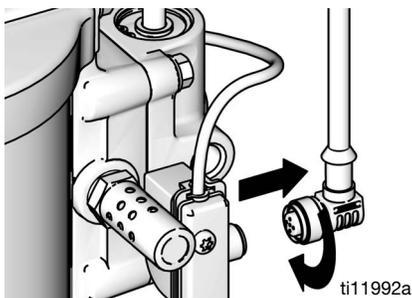

FIG. 34. Disconnect DataTrak
1. Unscrew cable from the back of the reed switch assembly. See FIG. 34.